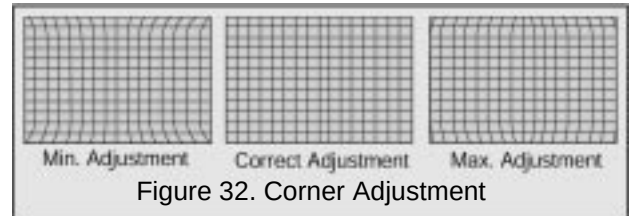

Figure 32. Corner Adjustment
2. Adjust "D0B" to straighten upper and lower lines (See Fig. 32)